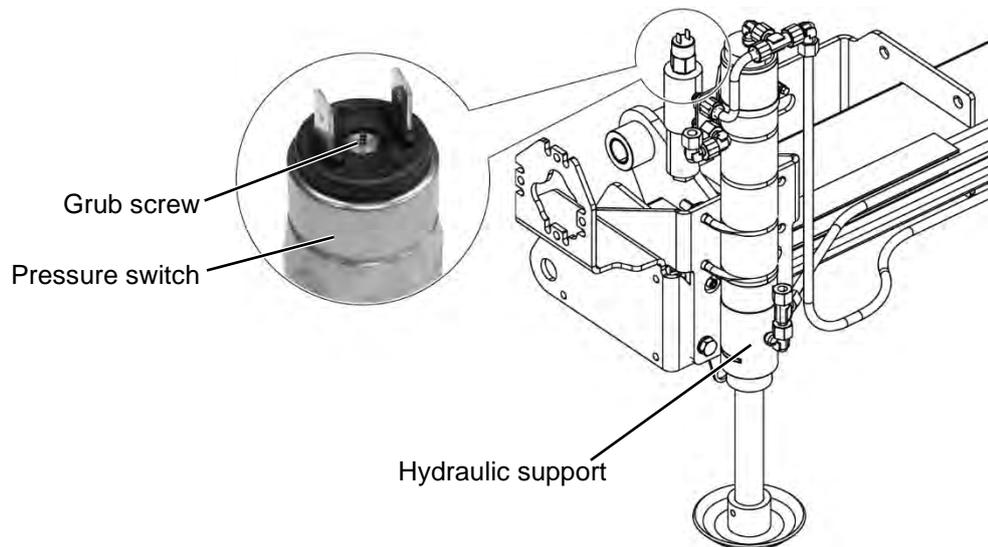

Figure 51: Hydraulic support, pressure switch
- ▶ For this purpose, turn the grub screw on the pressure switch (see Figure 51).